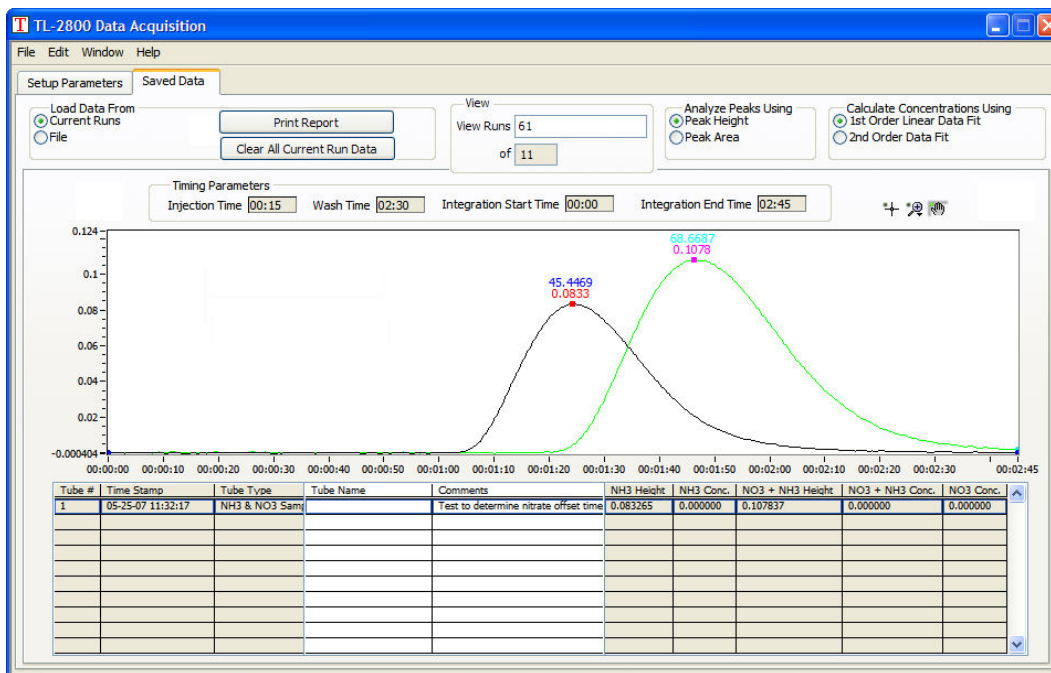

Figure 3-10: Nitrate Run Results.
- Look at the point where each peak just starts to rise from the baseline. In this example the time is 1:05 for the ammonia peak and 1:20 for the total nitrate peak. See figure 3-10. If you subtract the times, the Nitrate Offset Time is 15 seconds. You can now enter 0:15 into the 'Nitrate Offset Time' field on the setup parameters screen.